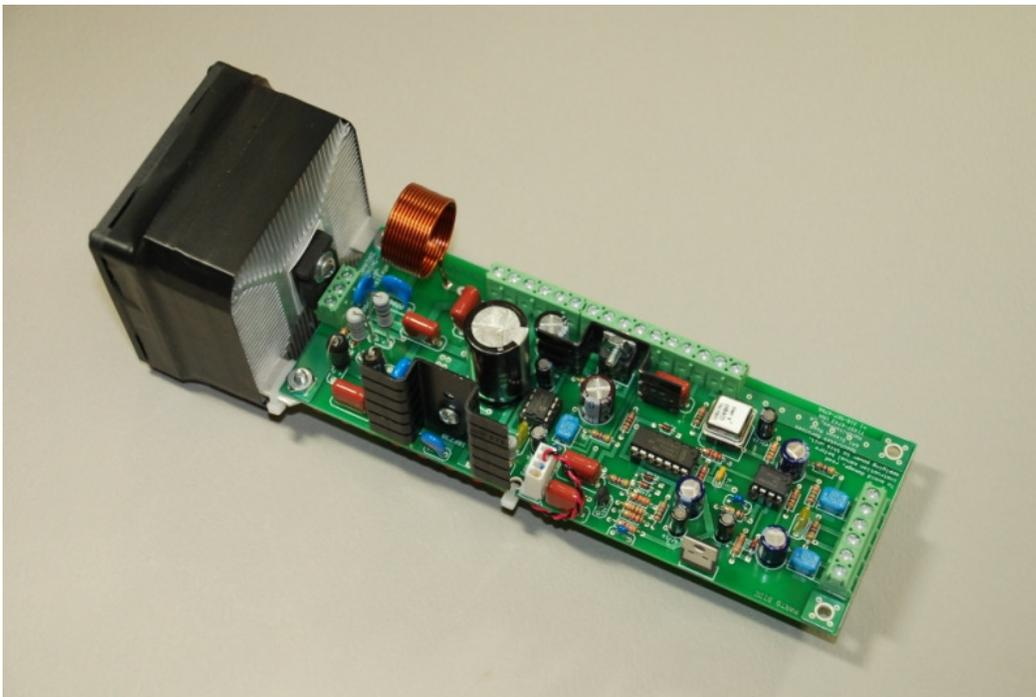

Figure 11.
27) Use some adhesive backed tape, such as plastic electrical tape, and carefully wrap the outside of the heat sink so the heat sink is completely covered. This ensures that no cooling air can escape through the sides and edges of the heat sink. Overlap the tape between the heat sink and the cooling fan to prevent air leaks at the junction between the heat sink and the fan. (**See Figure 11.**)